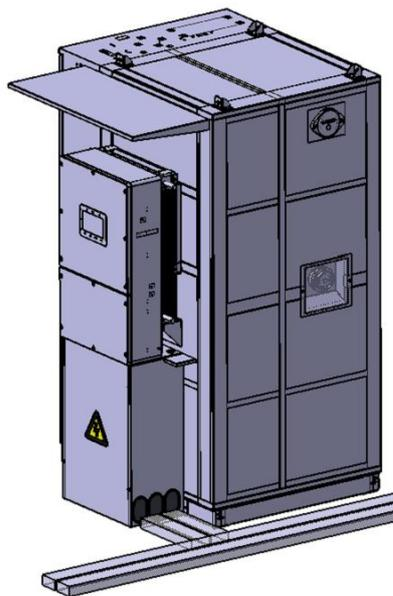

Figure 5-4 Foundation requirement
- Wire slot is recommended to be made of corrosion-resistant metal wire slot (such as stainless steel, aluminum alloy, etc.) to adapt to the environment of the plant station.as the figure5-4 shown